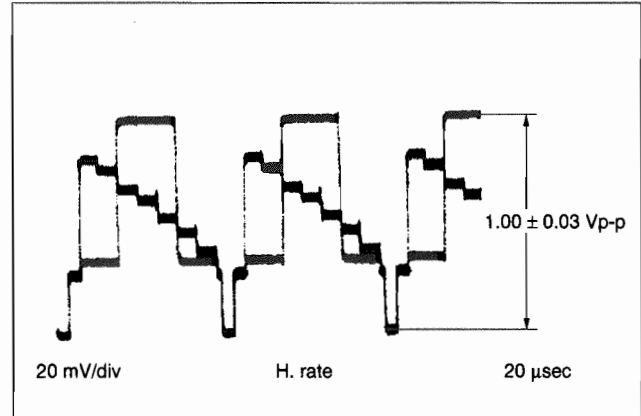

Fig. 3-3-3 EE Y level
- (1) Connect an oscilloscope to Y OUT TERMINAL.
- (2) Set the EVR mode by pressing the "K" button of the presetting unit.
- (3) Set "A : 11" by twice pressing 1 button of the remote controller.
- (4) Adjust the CH "+" or "-" buttons for 1.00 ± 0.03 Vp-p. (See Fig. 3-3-3.)
- (5) Set the normal VCR mode by pressing the "K" button of the presetting unit again so adjustment data is memorized.